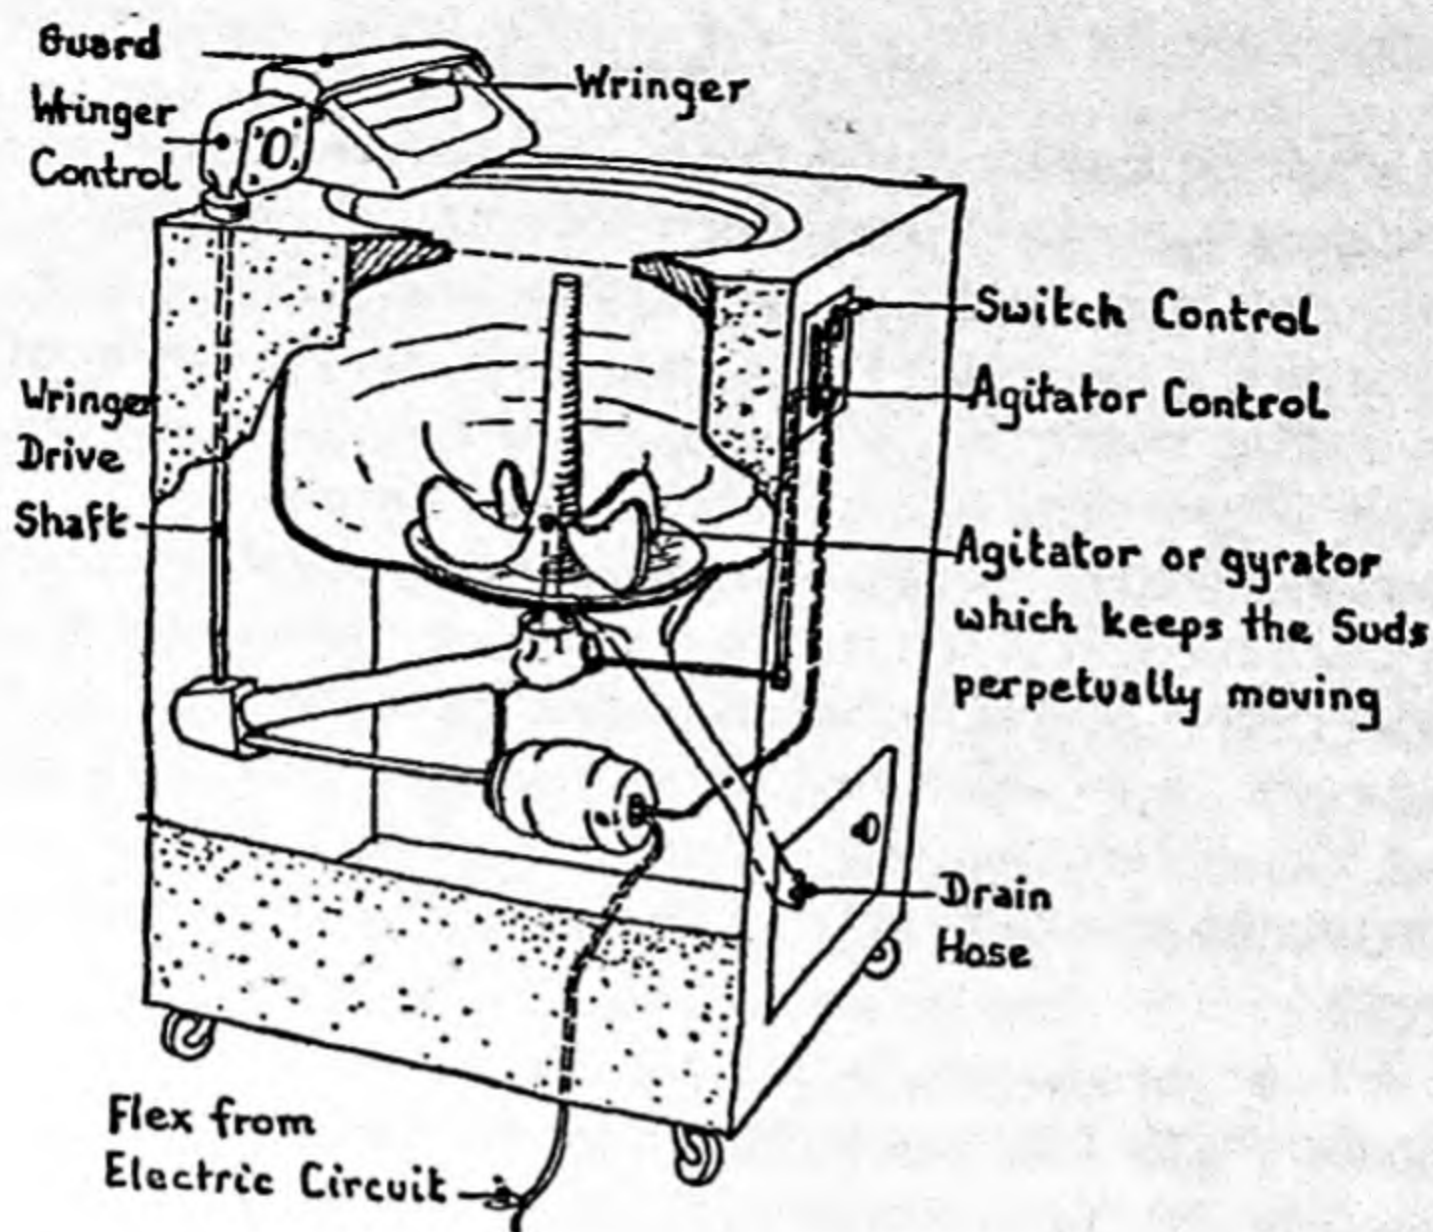

Fig. 19. ELECTRIC WASHING MACHINE. Agitator type.
*Agitator Type.* In this machine, the washing is performed by an agitator affixed to the bottom of the container or tub; this may be either raised or flat and has several blades, usually three or four. When the current is switched on, the motor operates the agitator, producing fifty to eighty half-turns of the blades per minute. The effect of this motion is to drive the hot soapy water through the clothes, thus cleansing them. (See Fig. 19.)